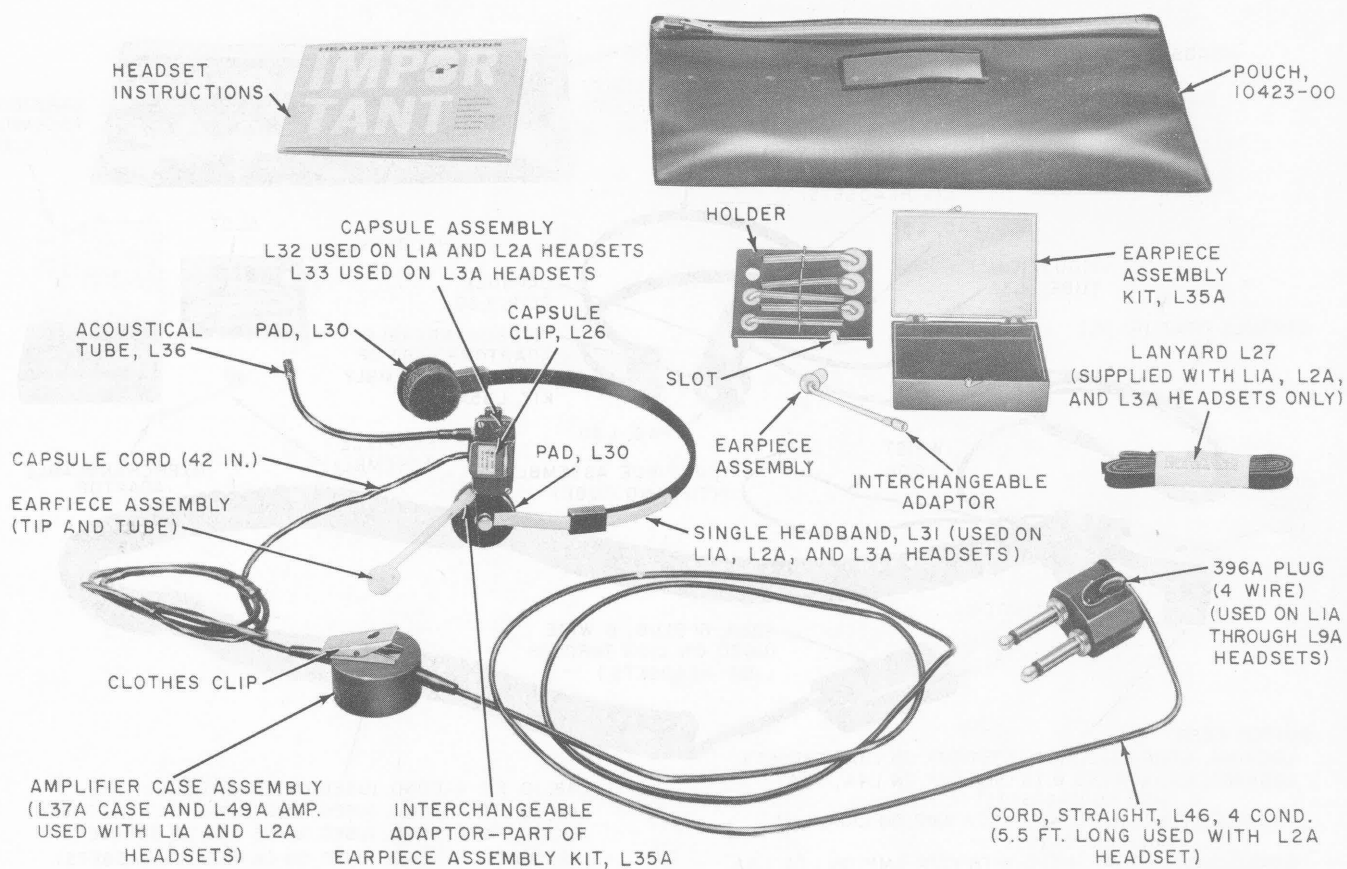

Fig. 2—KS-19796, L2A, Head Telephone Set
- (1) To rate the KS-19796 head telephone sets Mfr Disc. and to show in paragraph 1.01 the continuation of coverage of these sets. Since all KS-19796 head telephone sets are Mfr Disc., no further reference of Mfr Disc. will be made to this section
- (2) To add KS-19796, L54 through L58, to the piece part data
- (3) To warn against parallel operation of KS-19796 and KS-19796 Series A Head Telephone Sets
- (4) To include KS-19796, Series A information in Fig. 2 and 3 and Table A.
2.02 Figure 2 and 3 show the relationship of the various parts of the KS-19796, L2A and L13A, head telephone sets. The piece-part numbers of these parts are given together with the names as listed by the Western Electric Company Merchandise Department. Replacement parts will be available until present stocks are depleted.